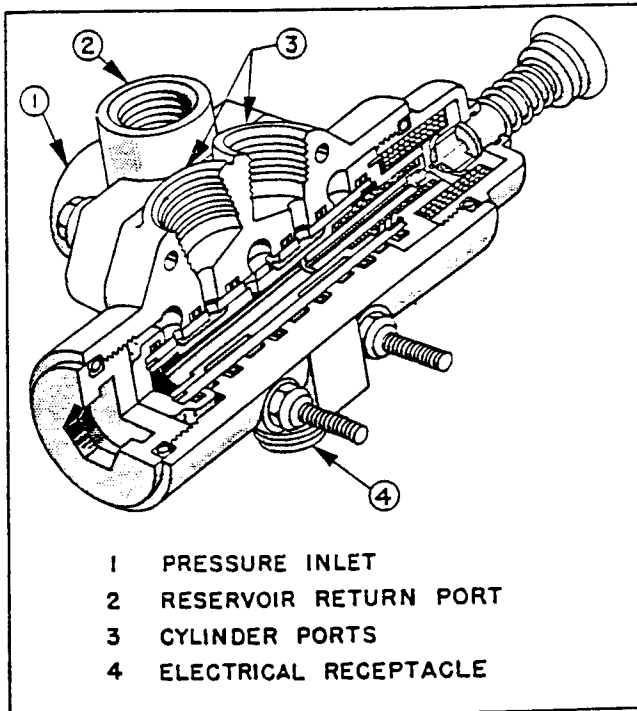

Figure 21. Four-Way Solenoid Valve
(11) FOUR-WAY SOLENOID VALVE. (Slot door valve) (Aireon 62086 and -1) See figure 21.
(c) DISASSEMBLY AND REPAIR. (See figure 21.)- The solenoid valve is of a complicated internal design, and no disassembly or repairs should be attempted. If the valve operates in a faulty manner, replace it.